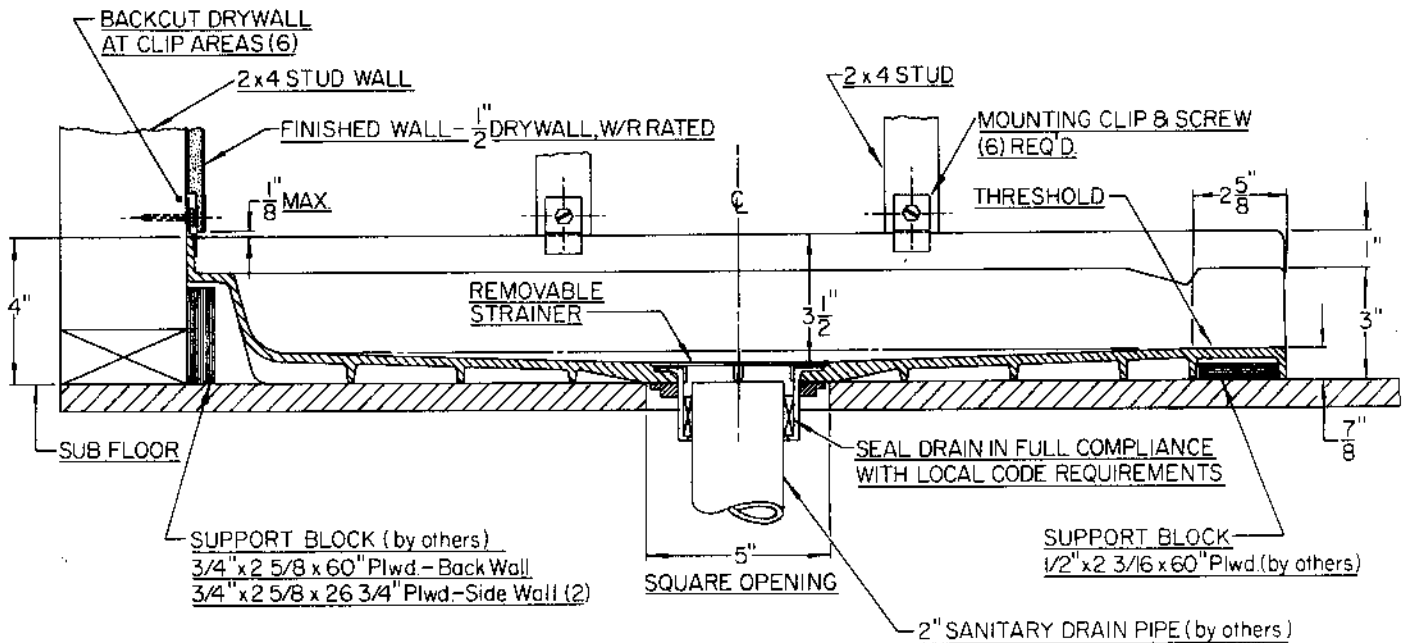

FIG. 1.
HINT: To reduce "creaking or squeaks" we suggest that drywall type screws (3" min. length) along with adhesive, be used to secure the sub-floor to the joists-especially under the Shower Floor and Entry Ramp (if so equipped). Fig. 1.
6. You have been furnished with six (6) mounting clips to secure the Shower Floor, do not drill holes in Shower Floor. Position two (2) clips per side and back, resting clip on top edge of tiling flange and securely fastening to stud or bracing with screws provided. See Fig. 1.